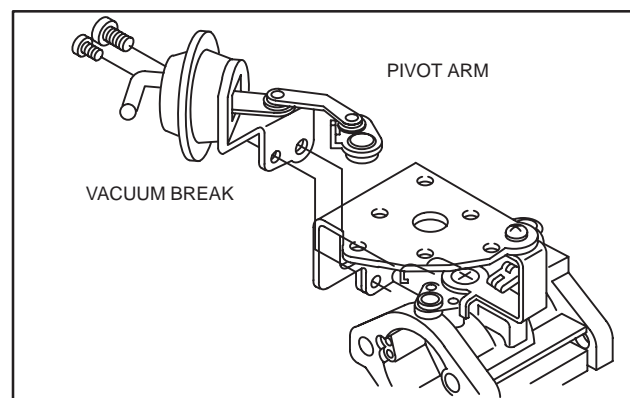

Fig. 43 – Assemble Vacuum Choke Breaker
4. Assemble vacuum choke break to bracket, Fig. 43.
Note correct position of pivot arm, Fig. 43.